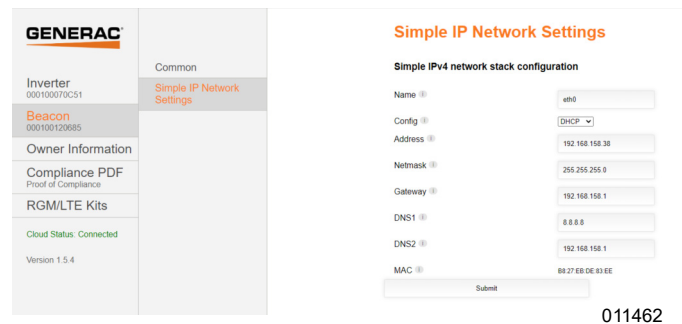

Figure 6-25. Configure Static IP Settings
- Select Simple IP Network Settings. See Figure 6-25.